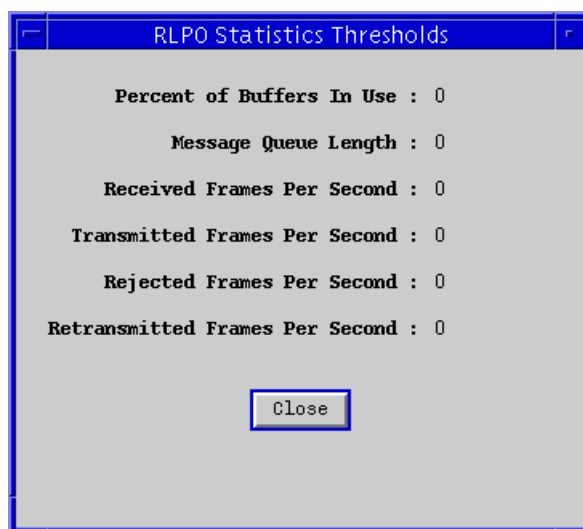

Figure 2-15. The RLP Statistics Thresholds Window
2. Drag down to **Thresholds**, and release. The RLP Statistics Thresholds window, Figure 2-15, will appear.